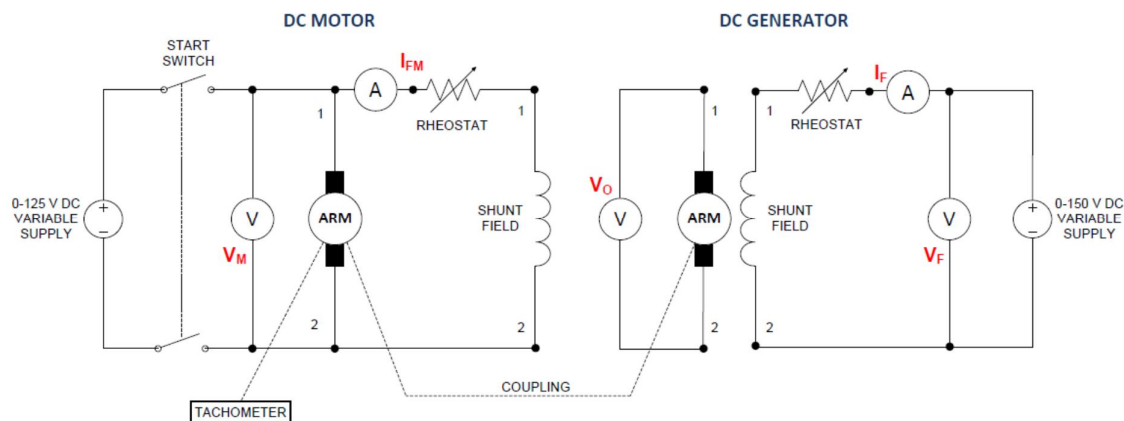

Figure 1.1
- 4 Make the motor connections shown in Fig. 1.1 but do not turn the power ON yet. Turn the knob of the 0-125 variable DC supply fully counterclockwise to its zero position. Turn the motor's field rheostat knob fully counterclockwise to its minimum resistance position.
- 5 Make the generator connections shown in Fig. 1.1 but do not turn the power ON yet. Turn the generator's field rheostat knob fully counterclockwise to its maximum resistance position. Turn the knob of the 0-150 volt supply fully counterclockwise to its zero position.